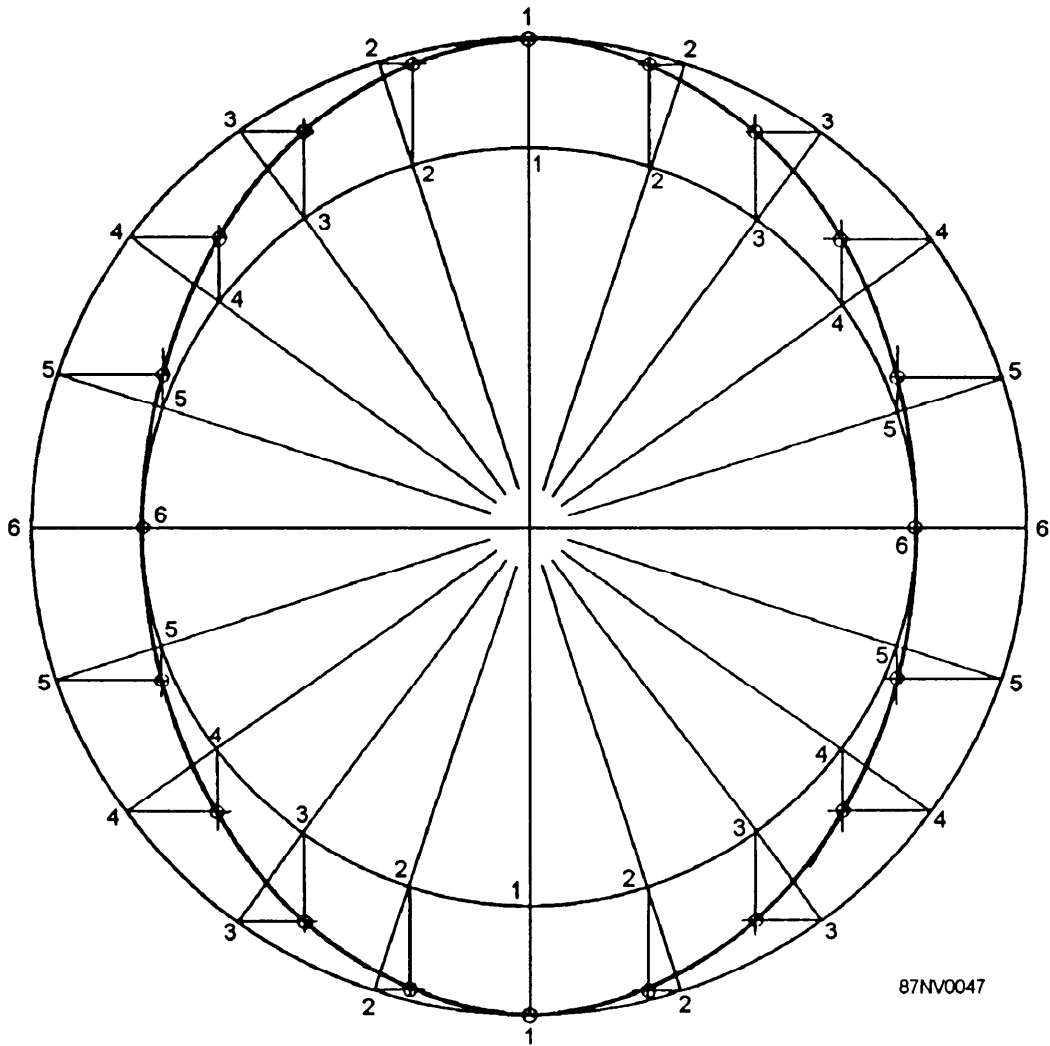

Figure 16-8.—Construction of an ellipse.
PROBLEM IV—Develop an ellipse with a vertical diameter of $6 \frac{1}{4}$ inches and a horizontal diameter of $4 \frac{7}{8}$ inches. (See fig. 16-8.)
4. Locate the equal-space division points on the outer circle circumference by radiating lines from the center point. These lines are to pass through the division points on the inner circle's circumference. Number these points as indicated in figure 16-8.